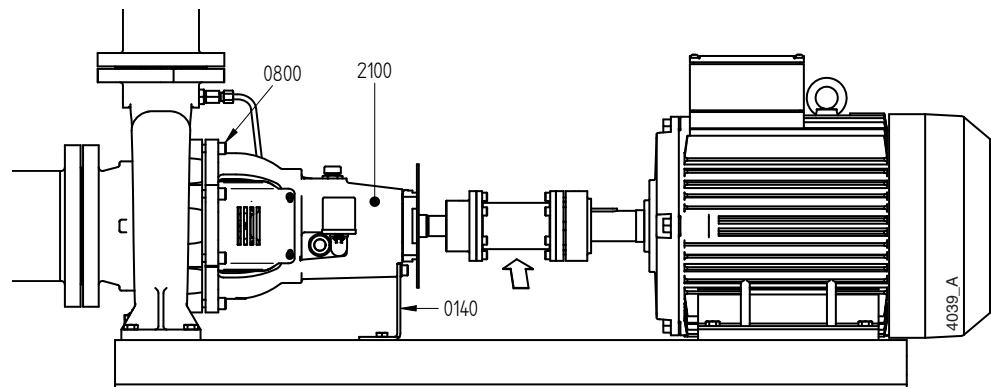
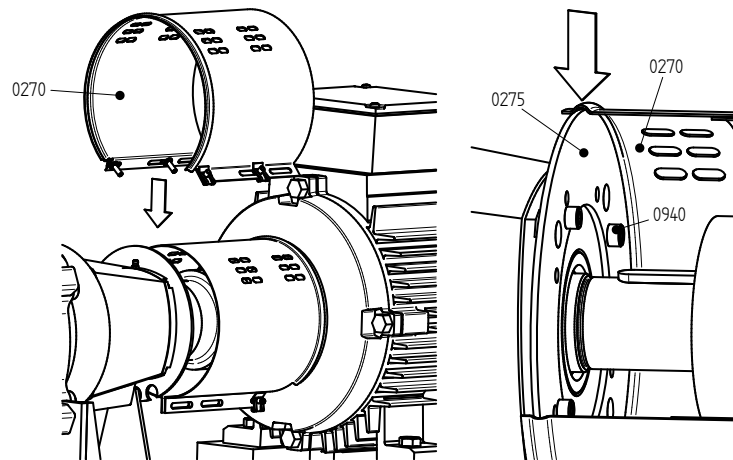

Figure 12: Back-Pull-Out principle.
Figure 16: Fitting the jacket at pump side.
- 3 Loosen the bracket support (0140) from the base plate, see figure 12.
- 6 Remove the coupling half from the pump shaft with a coupling puller and remove the coupling key (2210).
- 7 Unscrew bolts (0940) and remove the assembly plate (0275) from the bearing cover (2115). For versions L5/L6: Unscrew bolts (0940) and remove the assembly plate (0275) from the bearing holder (2840). See figure 16.
- 4 Fit the assembly plate (0275) to the bearing cover (2115) with bolts (0940). For versions L5/L6: fit the assembly plate (0275) to the bearing holder (2840) with bolts (0940). See figure 16.
- 5 Fit the coupling key (2210) and fit the coupling half onto the pump shaft.